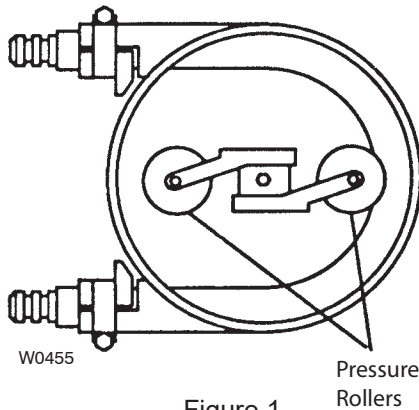

Figure 1
2. See Figure 1. For easier adjustment, check that pressure rollers are in position shown (one roller compressing middle of hose, and one roller free).